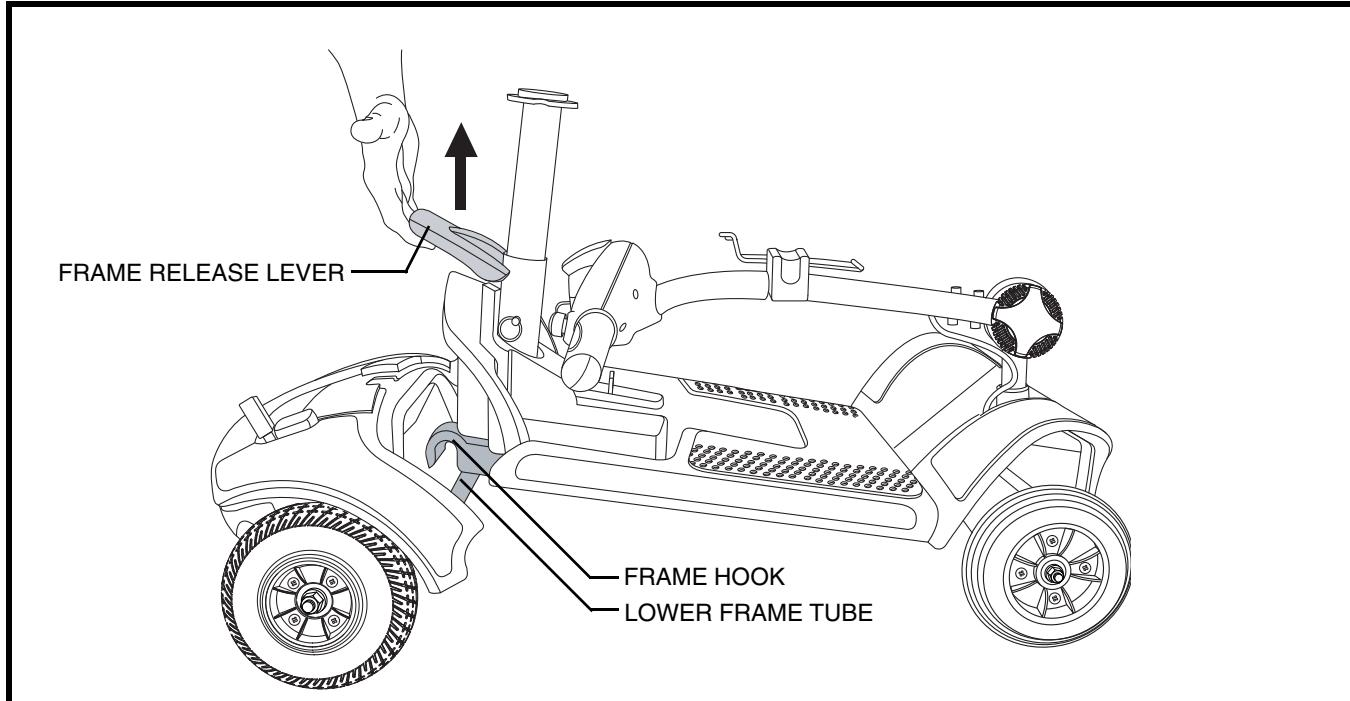

Figure 22. Frame Separation
2. Lift up on the frame release lever until the frame hooks are no longer resting on the lower frame tube. See figure 22.
3. Slowly separate the two sections of the Travel Scooter. See figure 22.
1. Use the frame release lever to lift the front section as you align the frame hooks of the front section with the lower frame tube of the rear section. See **figure 22**.